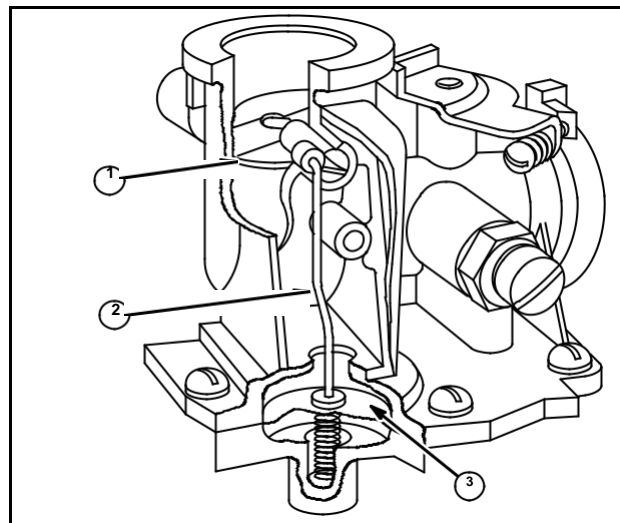

Fig. 13
Automatic Choke Operation (Fig. 13)
A diaphragm under the carburetor (3) is connected to choke shaft by a link (2), Fig. 13. A calibrated spring under diaphragm holds choke plate (1) closed when engine is not running.